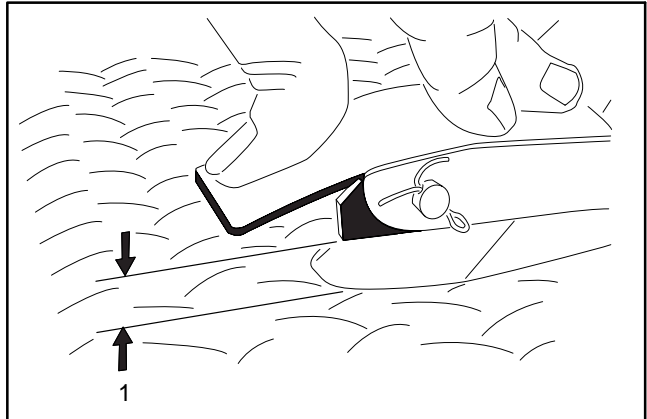

Figure 1
2. Check position of the engine speed control lever on fuel injection pump. The speed control lever should be contacting the high speed stop screw when the accelerator pedal arm is **.200" to .350" (5.08 mm to 8.89 mm)** above the floor plate (Fig. 1).